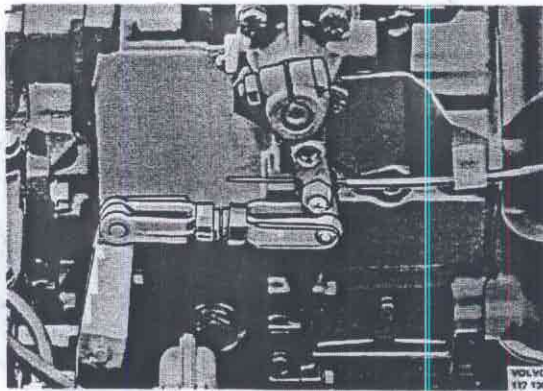

Fig. 43-133. Fitting the cable
17. Place the auxiliary gearbox in neutral. Fix the cable for the gear position indicator in the lever, see Fig. 43-133.
3. Remove the link, Fig. 43-139, from the auxiliary gearbox. Remove the wire from the shift indicator, see Fig. 43-133, from the outer gear shaft housing.